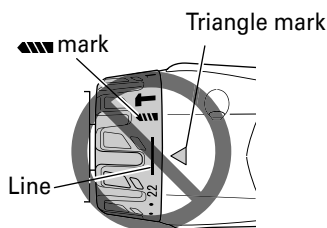

Fig. 10
- Do not use with the clutch dial set at the line between the number "22" and the drill mark "▨". Doing so may cause damage (See Fig. 10).